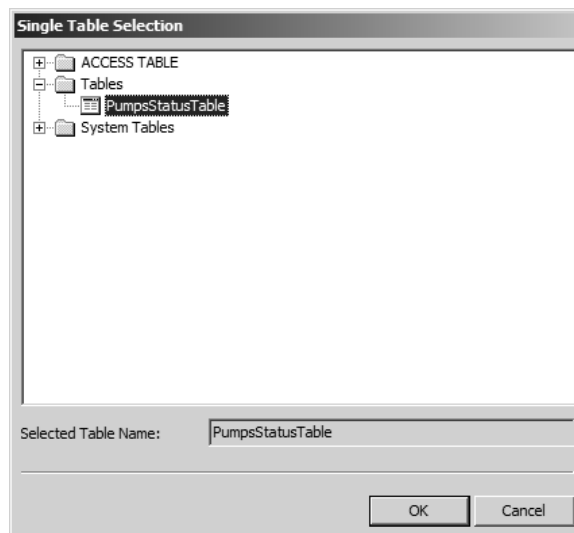

Figure L3.9 - Selecting PumpStatusTable table
10. Select **Inserting record(s) into a table**, and click this button  to select a table. Expand the Tables folder and select **PumpStatusTable**, as shown in Figure L3.9 then click on **OK**.